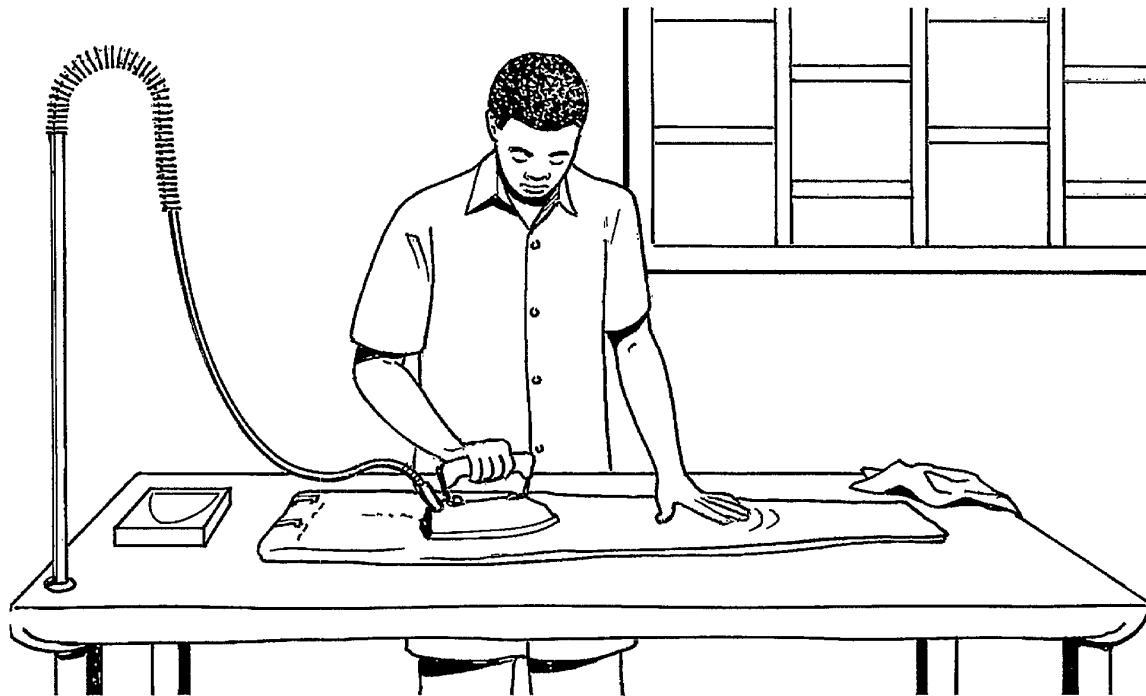

Figure 18: A manual ironing workstation
- **hot irons:** make sure irons do not overheat and have appropriate clear controls. ensure that they are placed only on stable, insulated surfaces when not in use (figure 18)